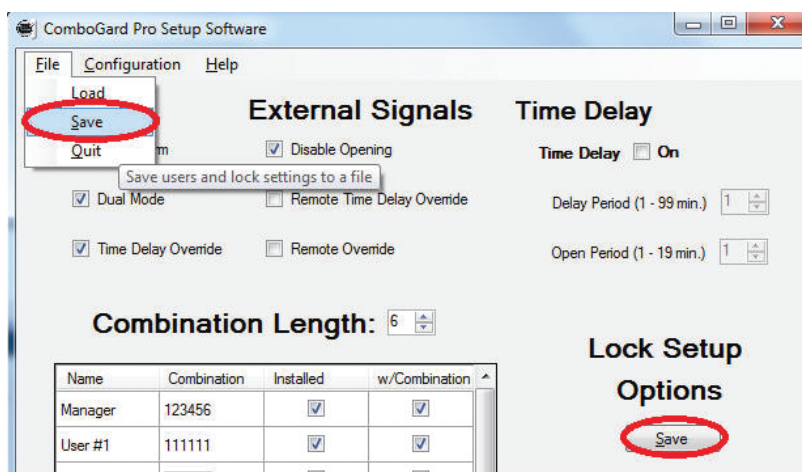

Figure 15
1. Click the **Save** button or on the **Files** tab at the top of the program and select Save (Figure 15).